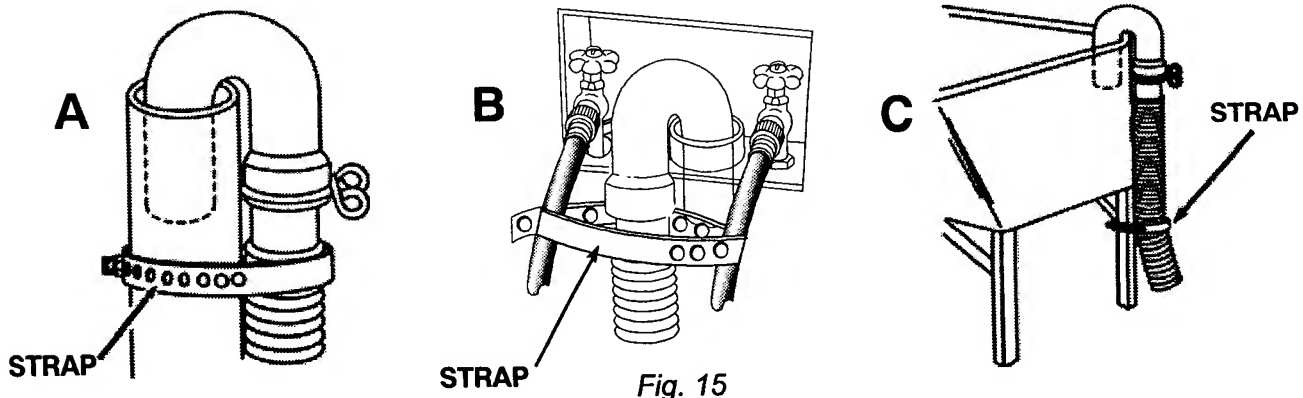

Fig. 15
19. The hook-end of the drain hose can be installed into a stand pipe (Fig. 15, A&B) or laundry tub, (Fig. 15, C) and secured with the shipping strap as shown.